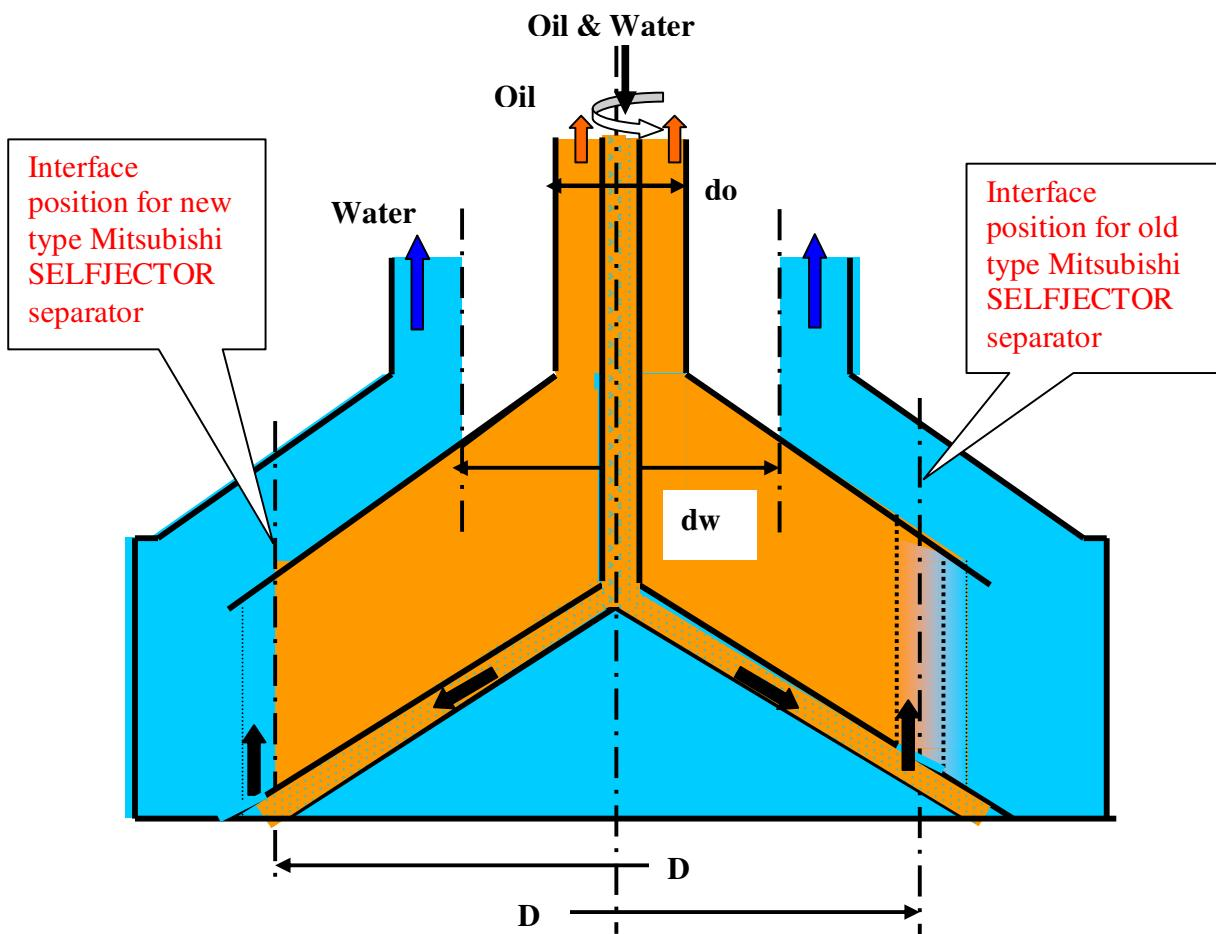

Fig. 1.6
**Case 6:** If the rotating “U” tube is replaced with a rotating bowl of centrifuge. The position of oil - and - water interface at diameter “D” and discharge of lower density separated oil is fixed at diameter “ $do$ ” for a given density mixture. If density of mixture, being separated, changes, the position of oil-and-water interface will also change. This has been explained in the Figure 1.6.